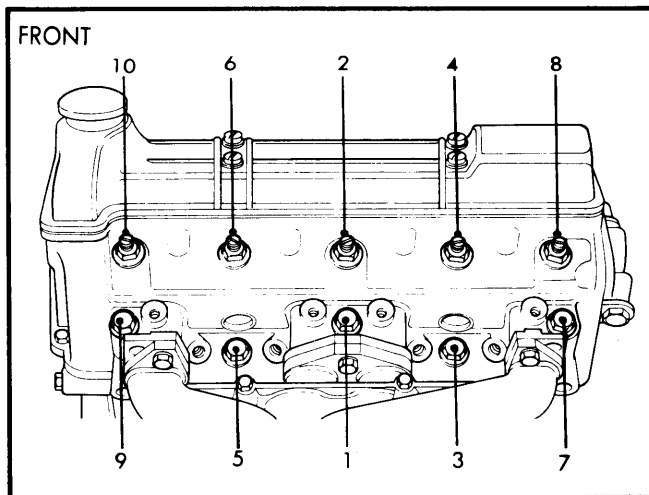

Fig. 1 Cylinder Head Tightening Sequence
2) Unlock and remove top sprocket retaining bolt. Disconnect air hose from air injection check valve and disconnect water pipe from thermostat housing. Disconnect exhaust pipe from manifold. Remove the two cylinder head to timing cover nuts and bolts. Loosen cylinder head nuts and bolts in reverse order of tightening sequence. See Fig. 1. Remove cylinder head complete with exhaust manifold.
Installation – To install, reverse removal procedure and tighten bolts to specification in sequence shown in Fig. 1.